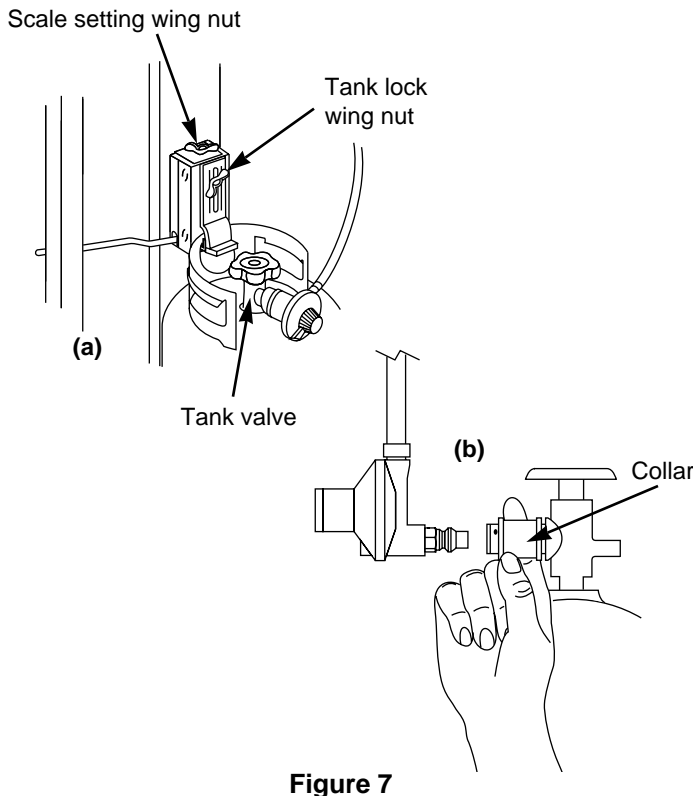

Figure 7
- 1) Close tank valve (turn clockwise). Figure 7 (a).
- 2) Slide the collar back on the quick disconnect to disengage the fitting. Figure 7 (b).